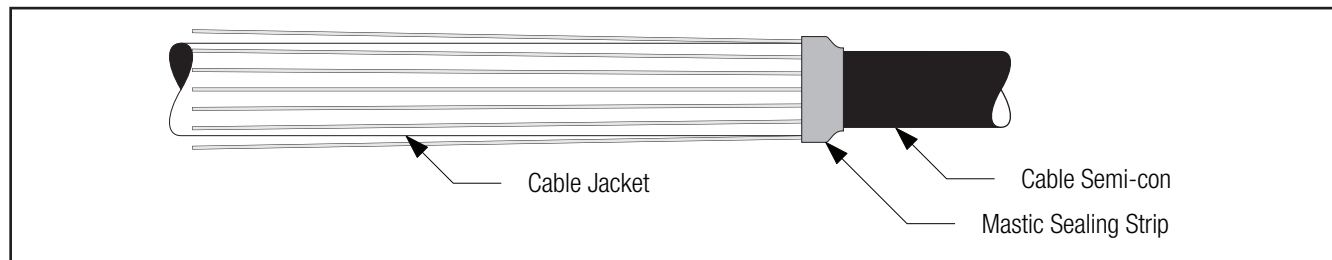

Figure 13
5.1 Wrap a mastic sealing strip against the neutral wires at the end of cable jacket (*Figure 13*).